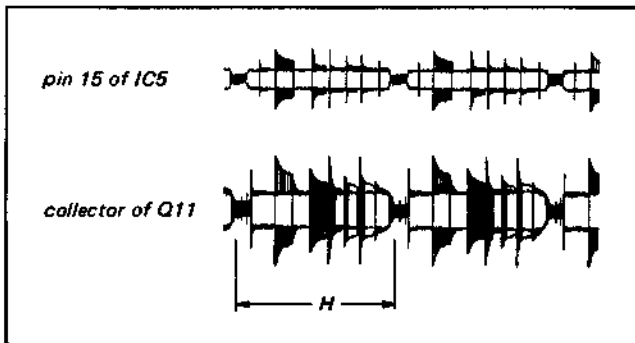

Fig. 4-4-10. Bell filter adjustment
- (3) Adjust LV5 and T1 so that the two waveforms become the same as shown in Fig. 4-4-10.